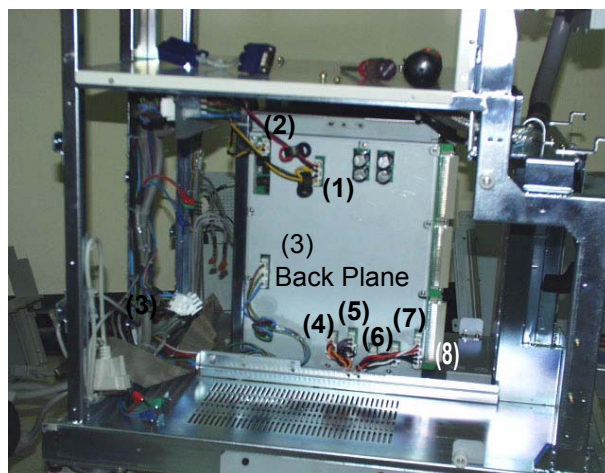

Figure 8-117 Disconnect 8 connectors from the left
- 4.) From the left view, disconnect eight connectors (1-8) from the Backplane Assy. Refer to Figure 8-117 on page 8-67 ..